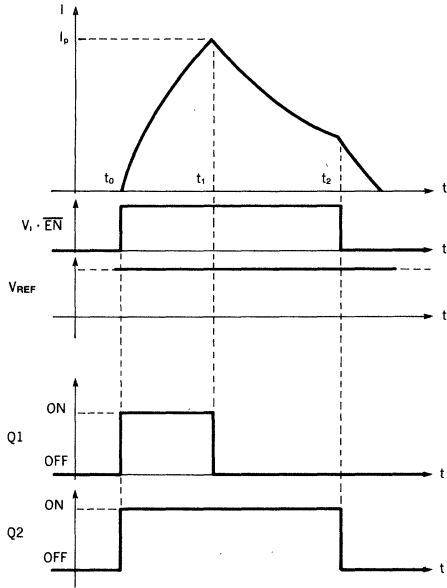
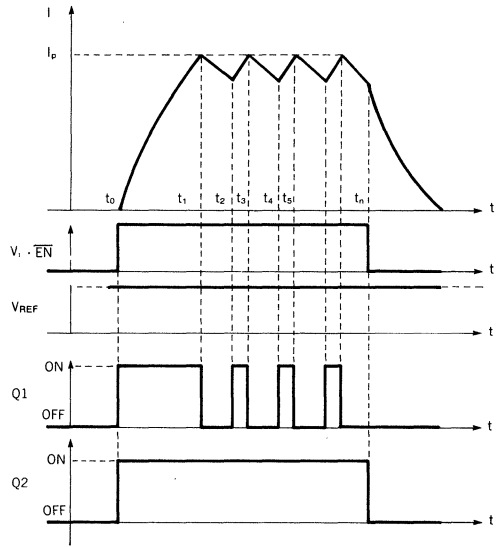

Figure 1. Load current waveform with pin 9 connected to GND
Figure 2. Load current waveform with external R-C network connected between pin 9 and ground
If the oscillator pin (9) is connected to ground the load current falls to zero as shown in Figure 1.
Figure 2 shows the current waveform obtained with an RC network connected between pin 9 and ground. From t_0 to t_1 the current increases as in Figure 1. A difference exists at the time t_2 because the current starts to increase again. At this time a pulse is produced by the oscillator circuit that resets the flip flop, FF1, and switches on the output transistor, Q1. The current increases until the drop on the sensing resistor R_{S1} is equal to V_{REF1} (t_3) and the cycle repeats.